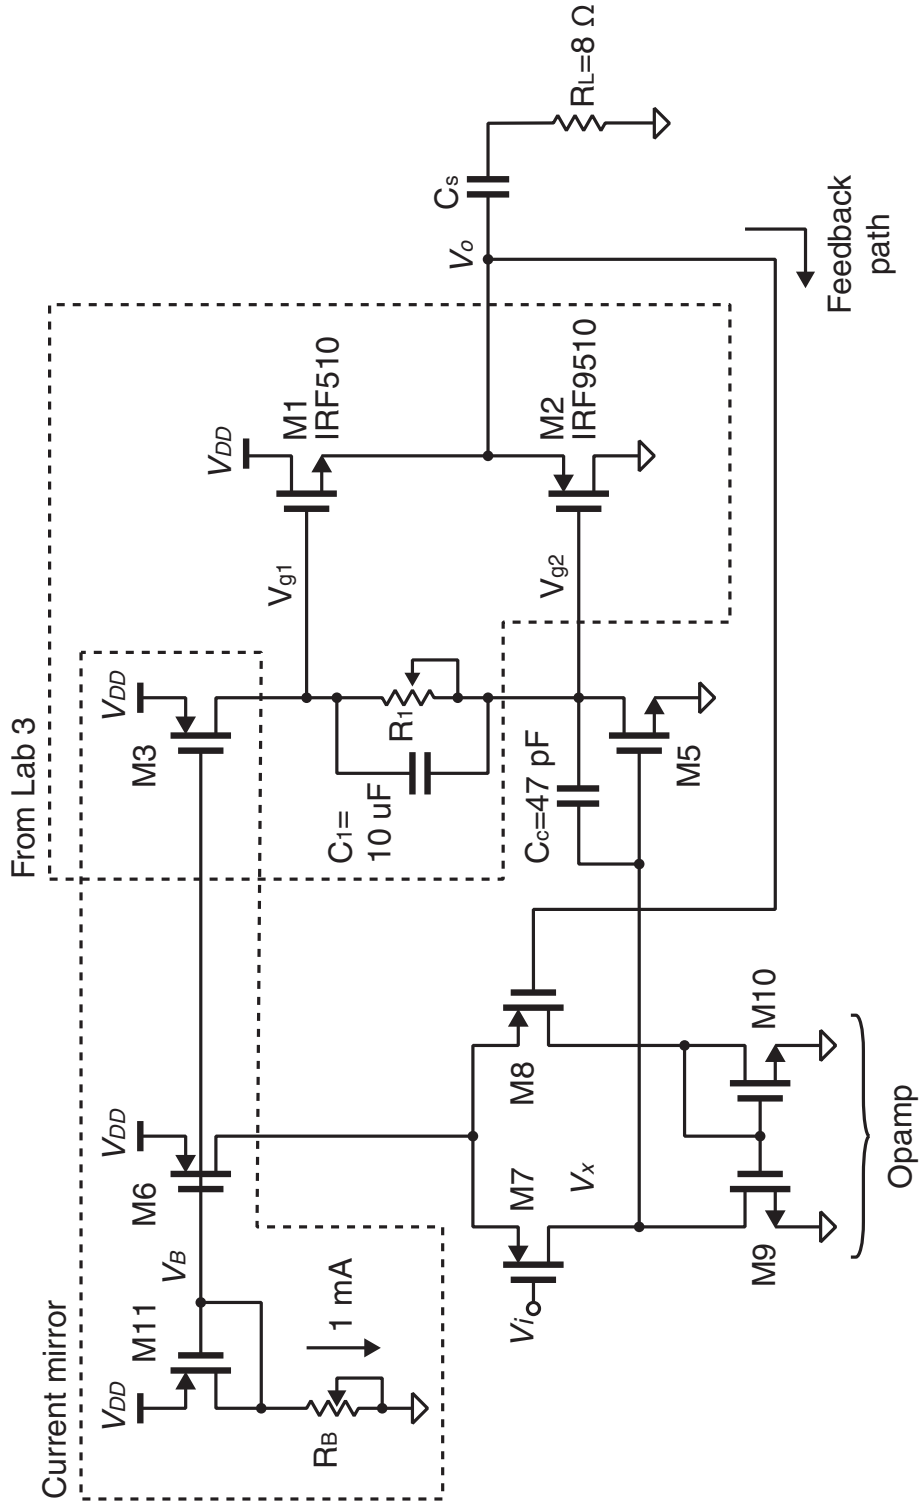

Figure 2: A full schematic of the audio power amplifier.
In this lab, you will simulate and test the audio power amplifier with feedback. Circuits from all of the previous labs, a common-source amplifier, current mirror, operational amplifier, and power amplifier will be used in this lab. A full schematic of the audio power amplifier is shown in Figure 2. As in Lab 3, the supply voltage is 12 V due to the large V_{TH} of the power transistors, and both the input and output bias points are 6 V for maximum signal swing. An 8- Ω speaker is connected to the output via a DC block capacitor as speakers cannot accept any DC current in general.
1. Determine the type of feedback in Figure 2.